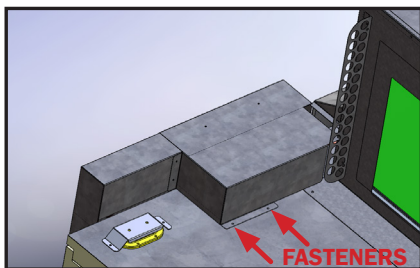
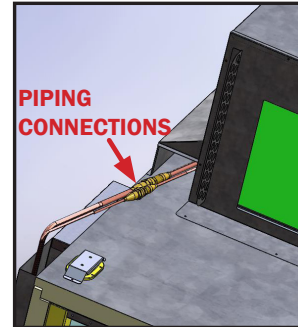

Fig. 9a Location of piping cap fasteners
Fig. 9b Remove cap from piping cover
1. Release the (2) fasteners on the cap of the piping cover with a 1/4" hex head to remove the cap (Fig. 9a). This will expose the piping connections (Fig. 9b).